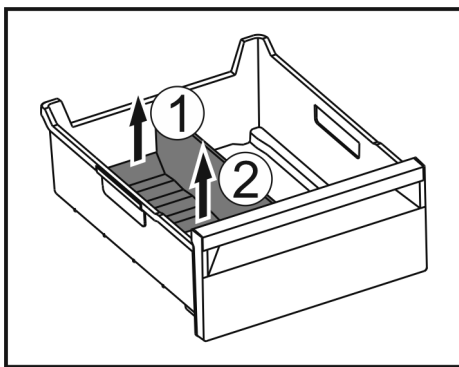

Fig. 192
- Lift the rear part of the ice compartment divider. Fig. 192 (1)
- Remove the ice compartment divider upwards. Fig. 192 (2)